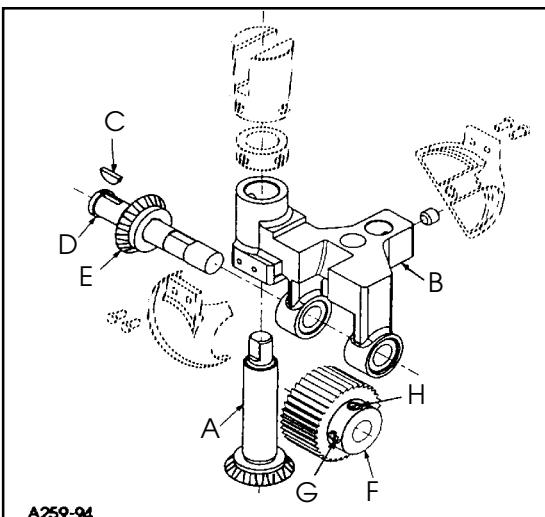

FIG. 16
Assemble driven gear (A, Fig.16) through feed roller frame (B). Place woodruff key (C) into slot of feed roller shaft (D). Slide driven gear (E) on to shaft (D), make sure key (C) goes into slot in gear (E). While holding feed roller frame (B) with steel roller (F) between the two frame lobes, slide feed roller shaft (D) and assembled components through frame. Make sure that shoulder of roller (F) is to the right. Align screw (G) (first in operating direction on roller) on the flat of shaft (E). At the same time thrust shoulder of shaft (D) against face of gear (E), make sure left edge of roller is against right (inside) face of left lob. Secure screw (G) on flat of shaft (D) and tighten screw (H).